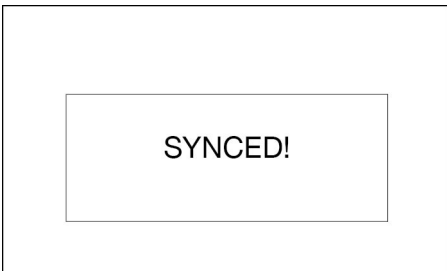

FIG. 33
4. The meter displays SYNCED if successful, or FAILED if unsuccessful (FIG. 33).